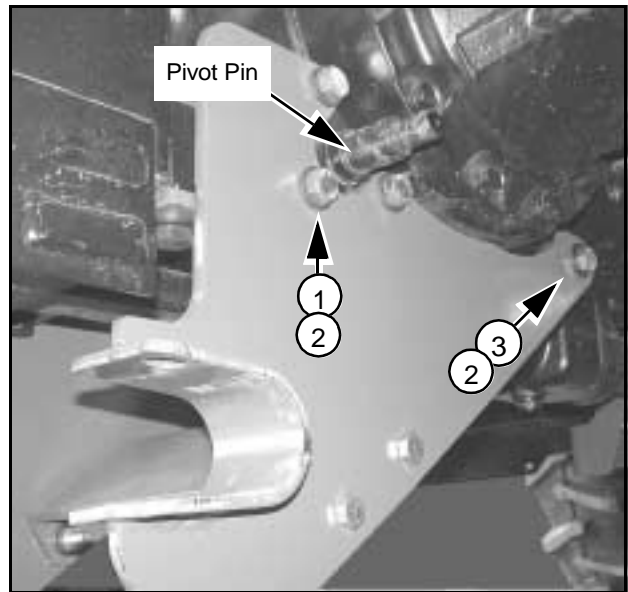
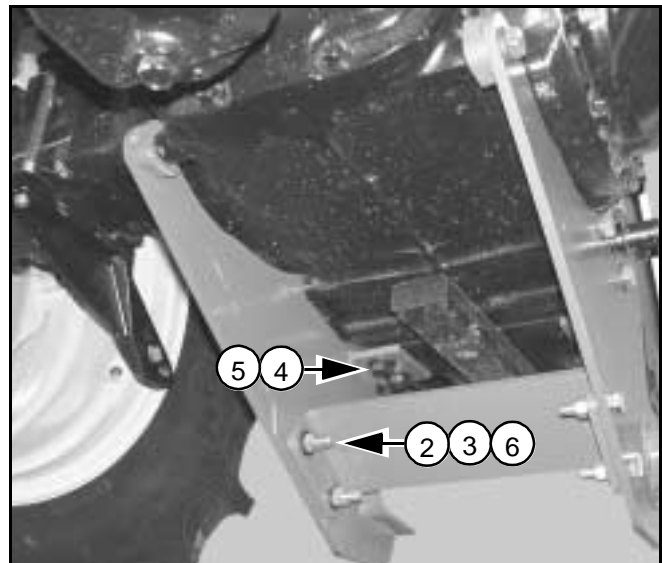

Figure 6 Right Rear Support Installed
Figure 7 Rear Supports & Cross Member Installed
1. Install right rear support by inserting cap screw (1) and flat washers (2) into position as shown in Figure 6.
2. Install cap screw (3) and flat washer (2) in front hole(Figure 6). Only use one flat washer on outside at head of cap screw.
3. Install remaining two cap screws (1) and four flat washers (2) into position around pivot pin. Install flat washers both inside and outside of rear support.
4. Install two cap screws (4) and flat washers (5) into bottom of tractor chassis as shown in Figure 7
6. Install cross member between right and left rear supports using four cap screws (3), flat washers (2) and hex nuts (6) as shown in Figure 7.